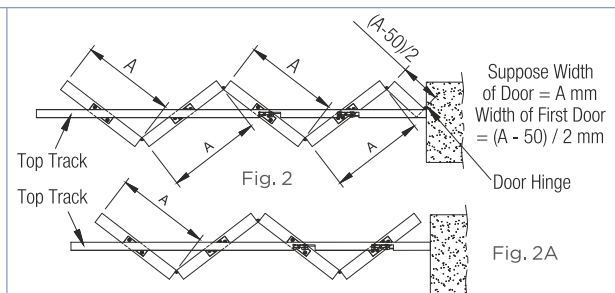

Fig. 2
2. Cut the door sizes as shown in fig. 2
7. Possible to create multiple door assembly using the recommended Ebco Concealed Door Hinge-3D & with and without Door Hinge - SS 304 with 4 Ball Bearing as shown in Fig.2 & 2A.